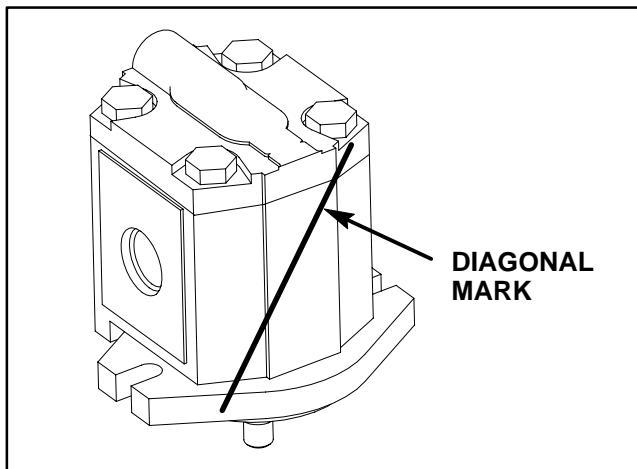

Figure 102
2. Use a marker or scribe to make a **diagonal** mark across the front flange, body and rear cover for reassembly purposes (Fig. 102).